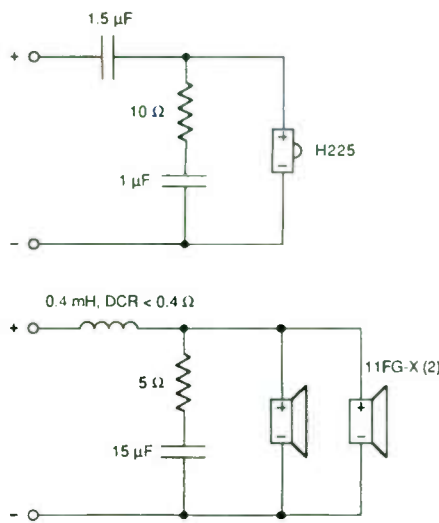

FIGURE 2: Crossover diagram.
**CROSSOVER PLANS.** Figure 2 is the circuit diagram for the S10 crossover. In appearance, this is a simple first-order design using impedance compensation, with different corner frequencies for the high-pass and low-pass sections. However, by combining the natural rolloffs of